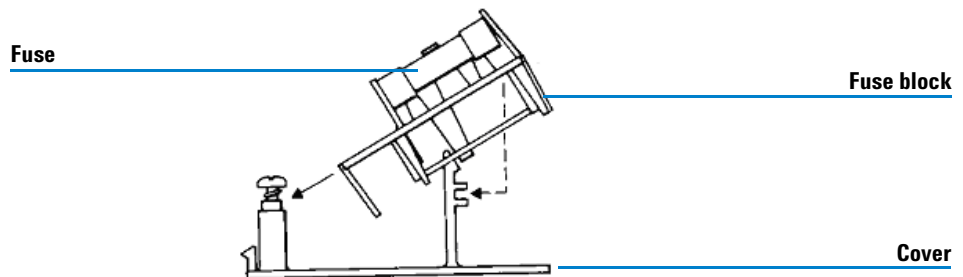

Figure 17 Removing the fuse-block
- 7 Loosen the Phillips head screw on the fuse pedestal two turns. Remove the fuse block by sliding it up and away from the screw and pedestal, as shown in Figure 17.